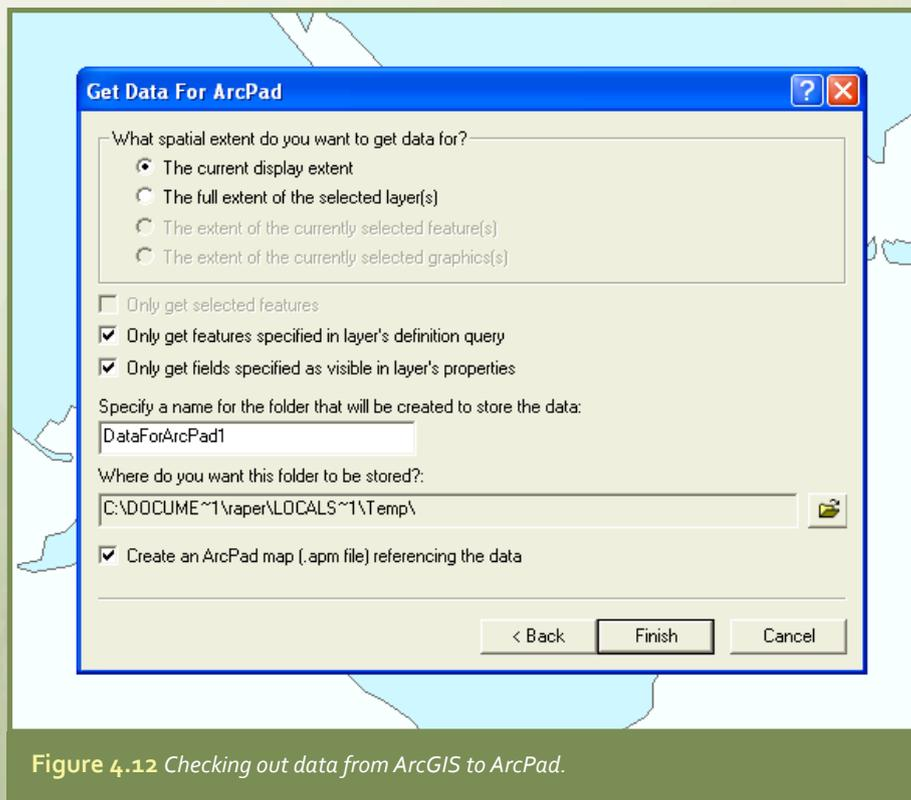

Figure 4.12 Checking out data from ArcGIS to ArcPad.
- When the data is stored in a personal geodatabase, you can use the ArcPad toolbar in ArcGIS to check out data to ArcPad by conversion to shapefiles (**figure 4.12**). You can check the edits back into the geodatabase with the ArcPad toolbar for ArcGIS, with manual reconciliation of changes.